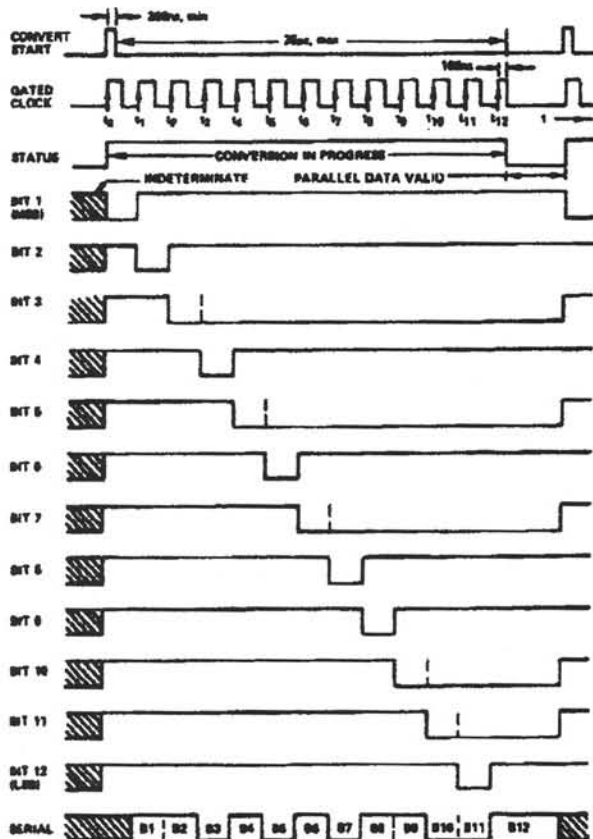

Figure 2. Timing Diagram (Binary Code 110101011001)
The timing diagram is shown in Figure 2. Receipt of a CONVERT START signal sets the STATUS flag, indicating conversion in progress. This, in turn, removes the inhibit applied to the gated clock, permitting it to run through 13 cycles. All SAR parallel bit and STATUS flip-flops are initialized on the leading edge, and the gated clock inhibit signal is removed on the trail-
**Short Cycle Input:** A Short Cycle input (Pin 14) permits the timing cycle shown in Figure 2 to be terminated after any number of desired bits have been converted, permitting somewhat shorter conversion times in applications not requiring full 12-bit resolution. When 12-bit resolution is required, Pin 14 is connected to +5 V (Pin 16). When 10-bit resolution is desired, Pin 14 is connected to Bit 11 output Pin 2. The conversion cycle then terminates, and the STATUS flag resets after the Bit 10 decision ( $t_{10} + 100 \text{ ns}$  in timing diagram of Figure 2). Short cycle pin connections and associated maximum 12-, 10- and 8-bit conversion times are summarized in Table III.
Serial data coding is binary for unipolar input ranges and offset binary for bipolar input ranges. Serial output is by bit (MSB first, LSB last) in NRZ (nonreturn-to-zero) format. Serial and parallel data outputs change state on positive-going clock edges. Serial data is guaranteed valid on all negative-going clock edges, permitting serial data to be clocked directly into a receiving register on these edges. There are 13 negative-going clock edges in the complete 12-bit conversion cycle, as shown in Figure 2. The first edge shifts an invalid bit into the register, which is shifted out on the 13th negative-going clock edge. All serial data bits will have been correctly transferred and be in the receiving shift register locations at the completion of the conversion period.